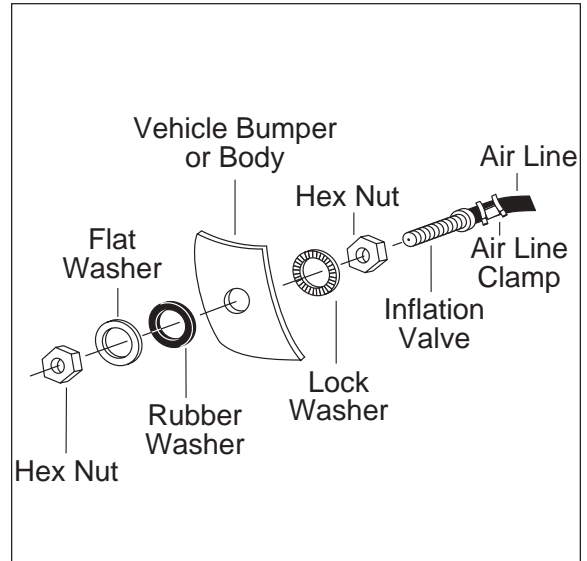

Figure 7
- j. Drill a $\frac{5}{16}$ " hole for inflation valve and mount as in illustration (Figure 7). Rubber washer is for outside weather seal.
- f. Drill $\frac{5}{16}$ " hole for inflating valves and mount as illustrated. Rubber washer is for outside weather seal (Figure 7).